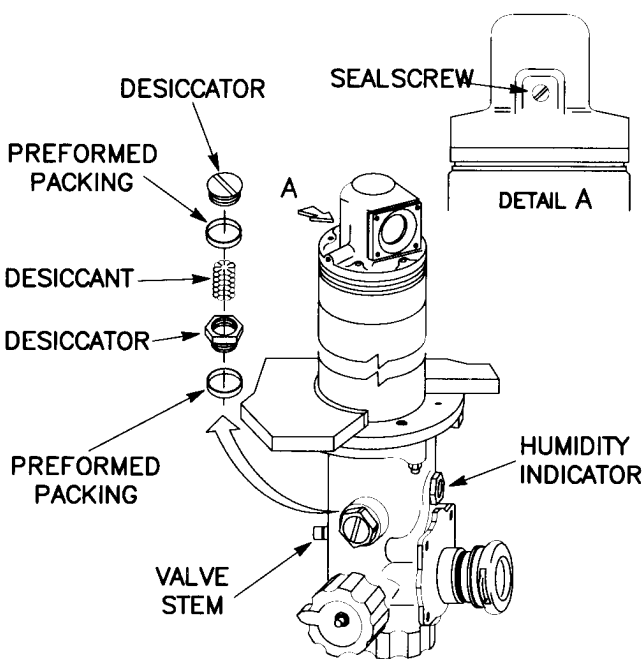

Figure 3-76 Panoramic Telescope, M901A1
(2) Optical System.
h. Panoramic Telescope, M901A1 (fig. 3-76).
- (11) Close pressure regulator valve and tighten setscrew.
- (12) Remove desiccator from telescope body and refill desiccator to level slightly below threads.
- (13) Lightly lubricate preformed packing on top part of desiccator with grease or silicone compound.
- (14) Install top part of desiccator to bottom.
- (15) Lightly lubricate preformed packing with grease or silicone compound.
- (16) Install desiccator on telescope body and tighten to 20 to 30 in lb. (2.25 to 3.39 Nm).
- (17) Slowly open pressure regulator valve and charge instrument to 2.0 + or - .0.5 psig (14 + or - 3 kPa). Tighten setscrew when pressure regulator gauge stabilizes.
- (18) If overpressurization occurs, slowly open setscrew, adjust pressure regulator to 2.0 + or - 0.5 psig; then tighten setscrew when pressure regulator gauge stabilizes.
- (19) Close pressure regulator gauge. Remove hose assembly and replace cap on nut of valve and install lockwire.
- (20) Close tank supply valve and verify on high pressure gage.
i. Panoramic Telescope, M981 FISTV (fig. 3-76). Refer to 3-16.h. for procedures.